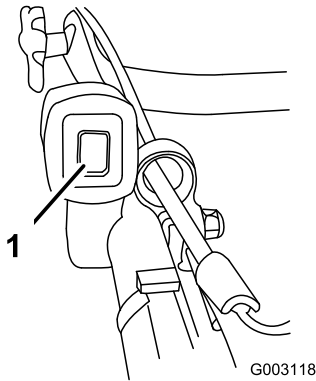

Figure 17
1. Push the ignition toggle switch to the On (“I”) position (Figure 17).